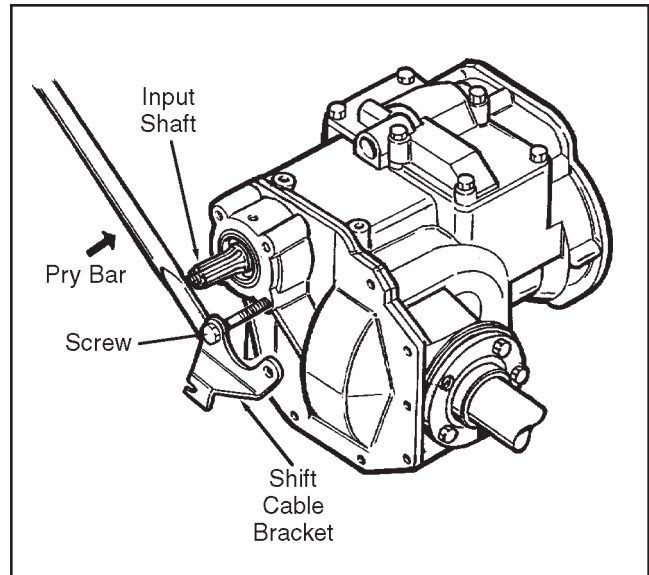

Figure 4I-7. Removing Input Shaft Bearing
6. Remove the input shaft bearing retaining ring as shown in Figure 4I-6.